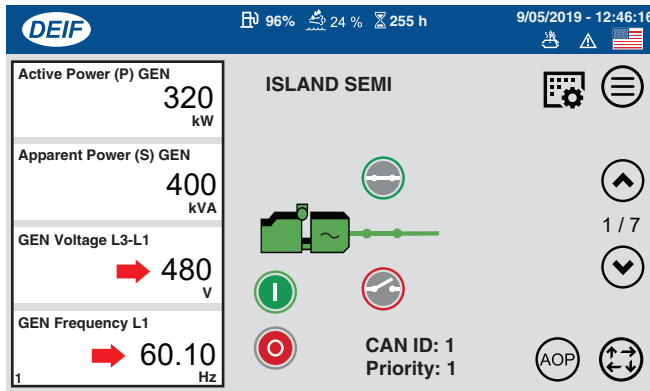

Figure 58. Voltage (V) and Frequency (Hz)
- On the touch display (Figure 58), verify that the **voltage (V)** and **frequency (Hz)** match the expected output.